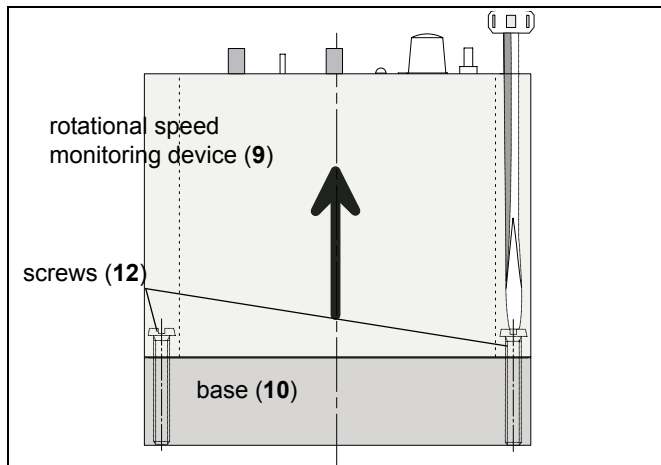

Fig. 5-6: Dismounting
3. Loosen the two screws (12) on both sides of the rotational speed monitoring device (9) (s. fig. 5-6).
4. Slowly pull the rotational speed monitoring device (9) off the base (10).